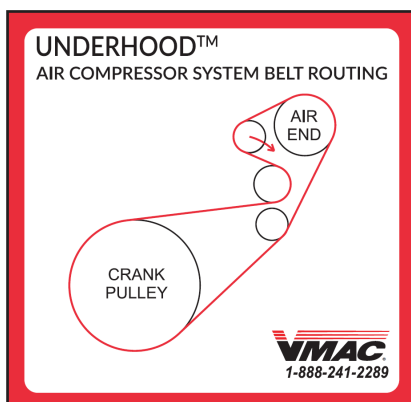

Figure 43 — Belt routing decal
- Install the VMAC belt routing decal in a suitable location under the hood (Figure 43).